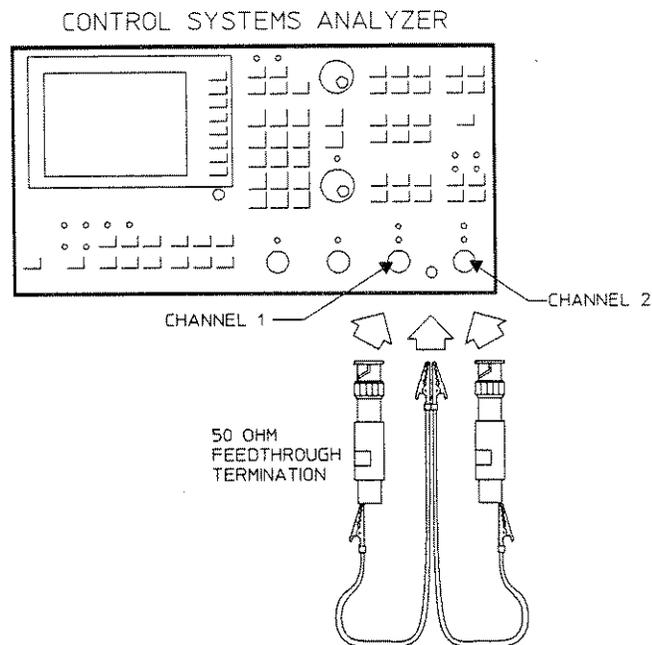

Figure 3-11. Noise and Spurious Signal Level Setup
1. Connect the test instruments as shown in Figure 3-11. Keep the leads from the feedthrough terminations to chassis ground as short as possible.